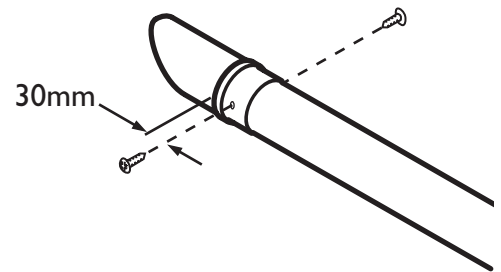

Fig. 7h
19. Mark the female end of the extension at 30mm as shown in two positions, directly opposite each other (Fig. 7h).